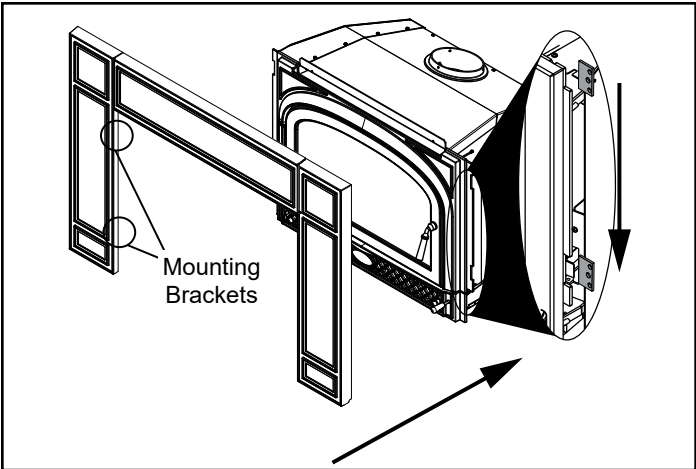

Figure 21.2
- 5. Slide cast trim assembly over the top of the appliance and set in position by guiding the right and left cast side bracket through the slots on the side of the appliance. Gently drop the assembly down into place (Figure 21.2).